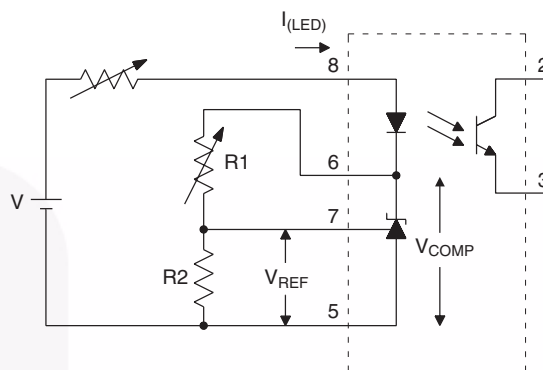

Figure 2.  $\Delta V_{REF}/\Delta V_{COMP}$  Test Circuit
| $\frac{\Delta V_{REF}}{\Delta V_{COMP}}$ | Ratio of $V_{REF}$ Variation to the Output of theError Amplifier | $I_{LED} = 10mA$ ,$V_{COMP} = V_{REF}$ to 12V(Fig. 2)        |       | -1.5  | -2.7  | mV/V     |
2. The dynamic impedance is defined as  $|Z_{OUT}| = \Delta V_{COMP}/\Delta I_{LED}$ . When the device is operating with two external resistors (see Figure 2), the total dynamic impedance of the circuit is given by: